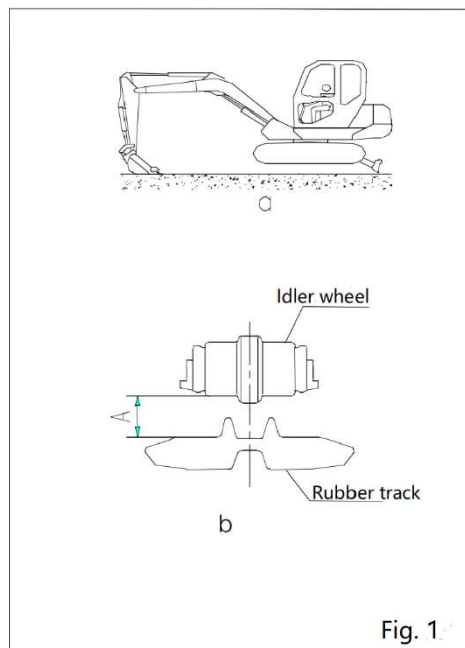

Fig. 1
- 3) Use the bucket to raise the front of the excavator (a in Fig. 1).